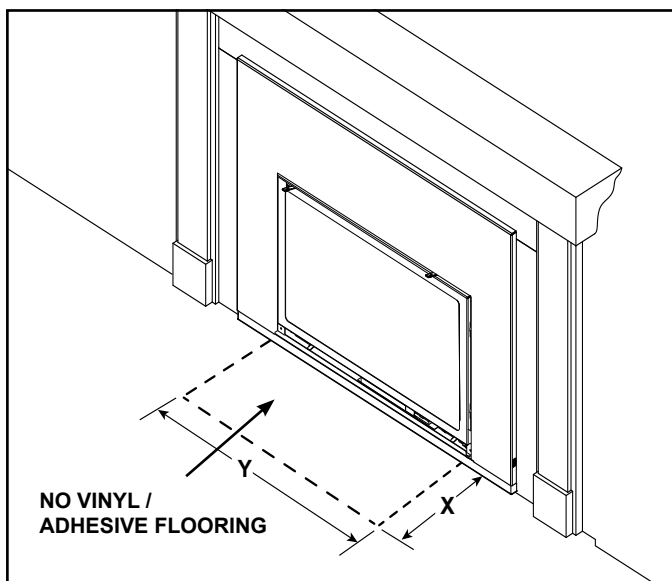

Figure 8.6 Hearth - Combustible Material Exception
- Combustible flooring may be located in front of the appliance. Exception - no vinyl / adhesive flooring. See Figure 8.6.